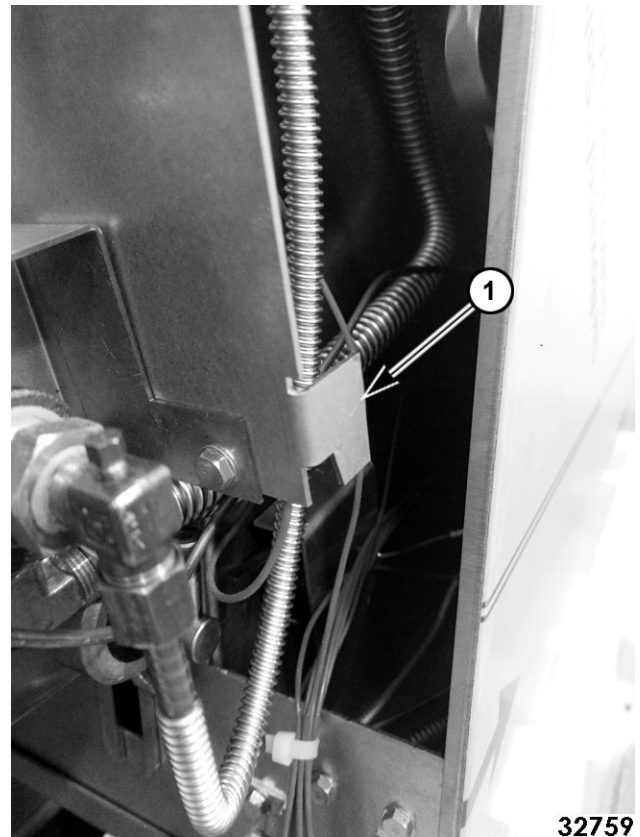

**Fig. 33**
4. Remove electrical cover (1, Fig. 33). Note and disconnect temperature control electrical connectors (2, Fig. 33).
**NOTE:** Shield (1, Fig. 33) is installed on previous production units, not on current production.